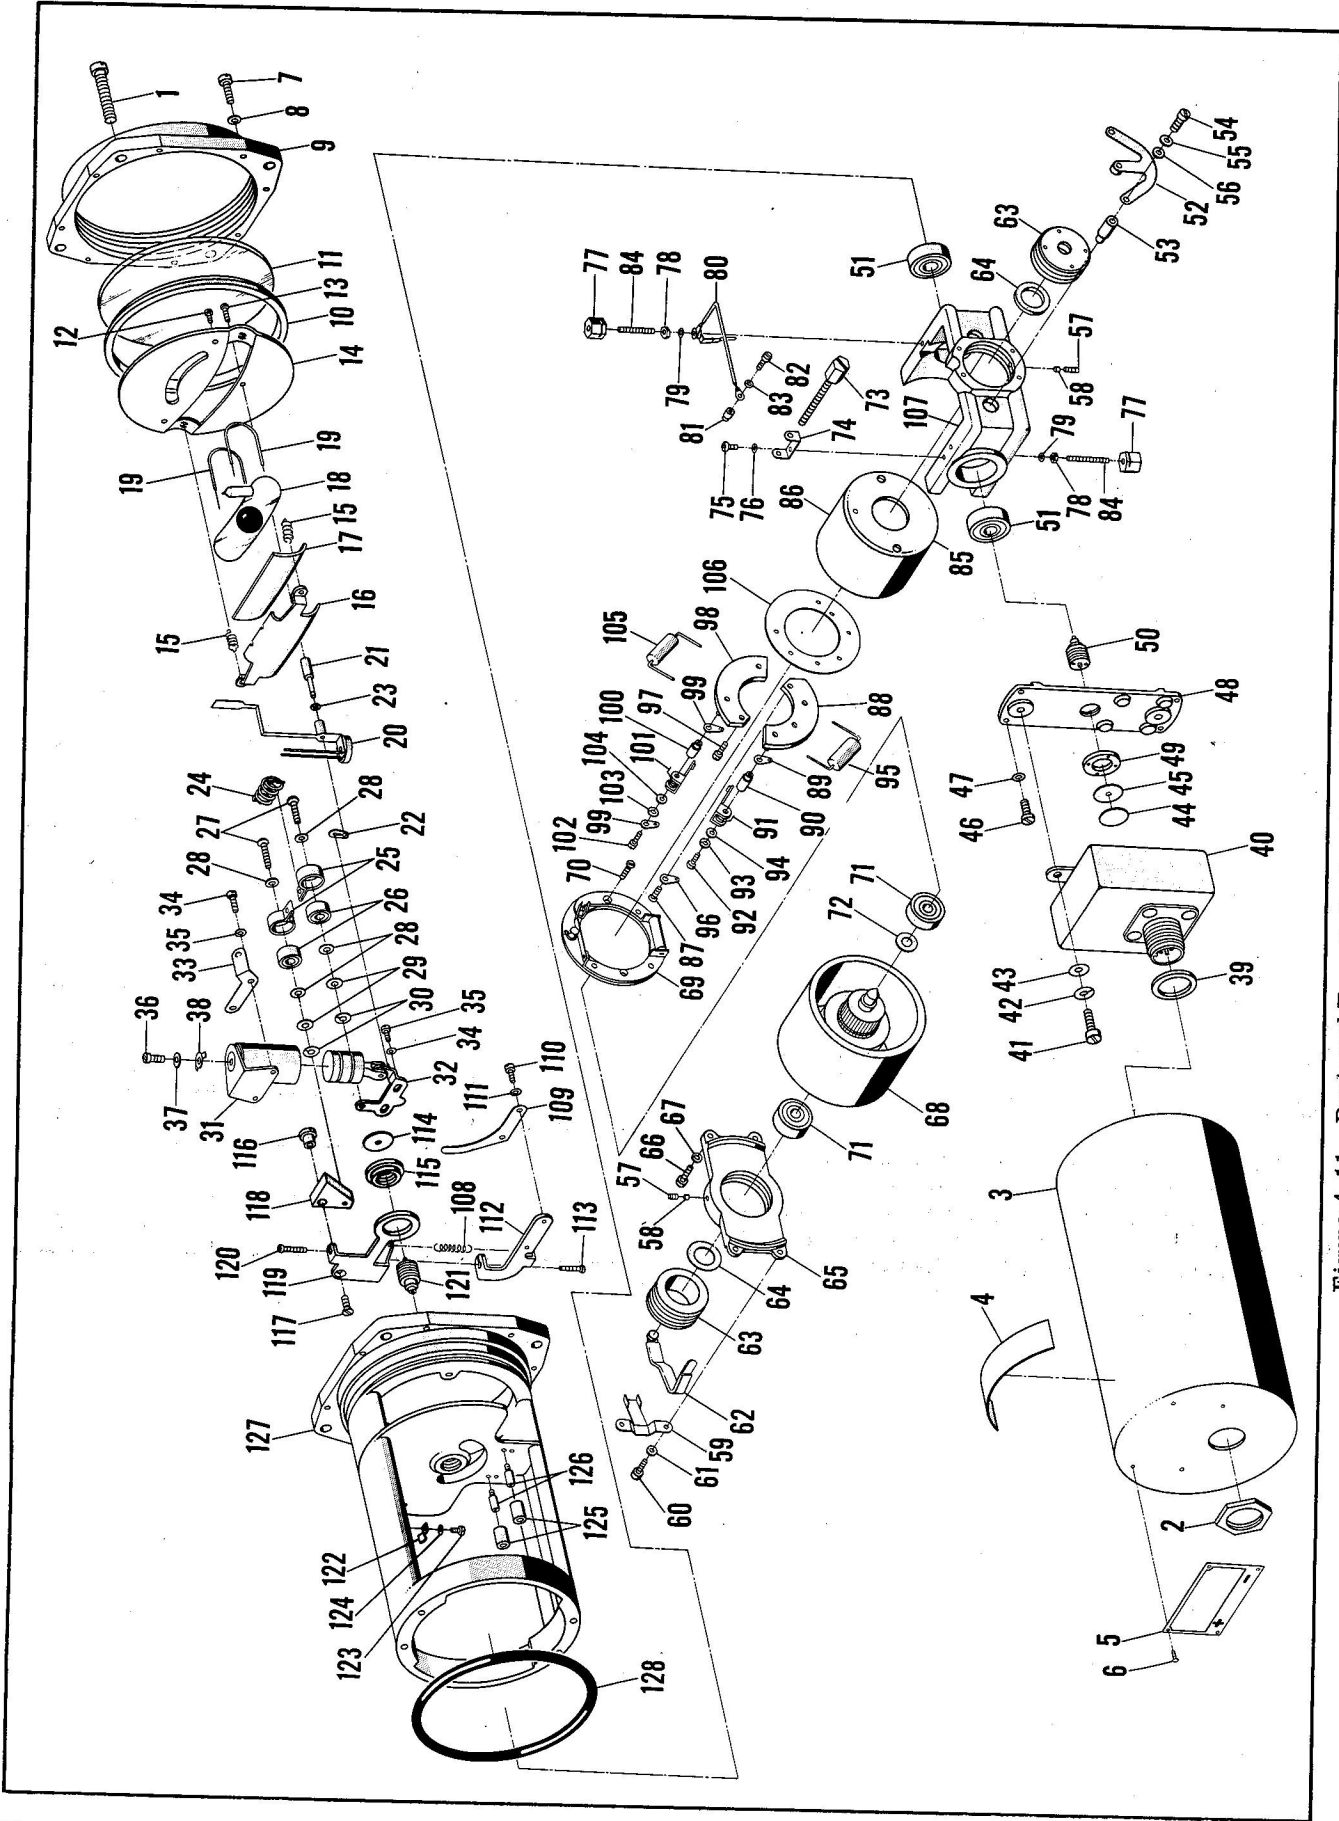
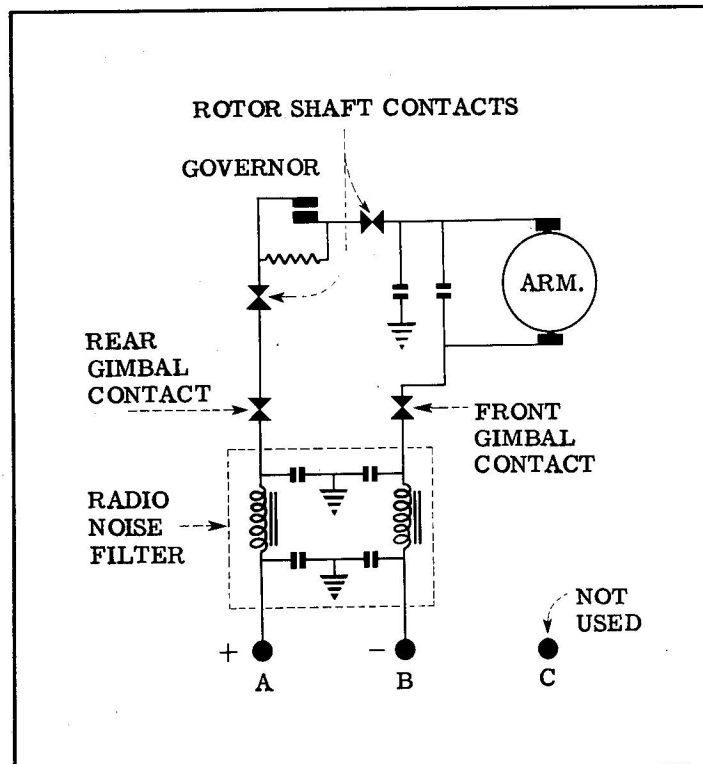

Figure 4-11. Bank and Turn Indicator Assembly, Model B4B-B
Figure 4-12. Wiring Diagram, Model B4B-B
DISASSEMBLY. (See figure 4-11.) Same as Model B4 except that filter assembly (40) replaces individual radio noise filtering components used on Model B4, and insulation (44) is used between insulating washer (45) and the filter assembly. The negative side of the electrical circuit is insulated throughout with insulation (81), and (114), and pivots (90), and (100). Condenser (105) is used between negative brush arm assembly (101) and ground. See figure 4-12 for wiring diagram.
TEST PROCEDURE. Same as Model B4 except that pointer deflections must be within tolerances listed in Table VI. See figure 4-12 for wiring diagram.
KEY FOR FIGURE 4-11